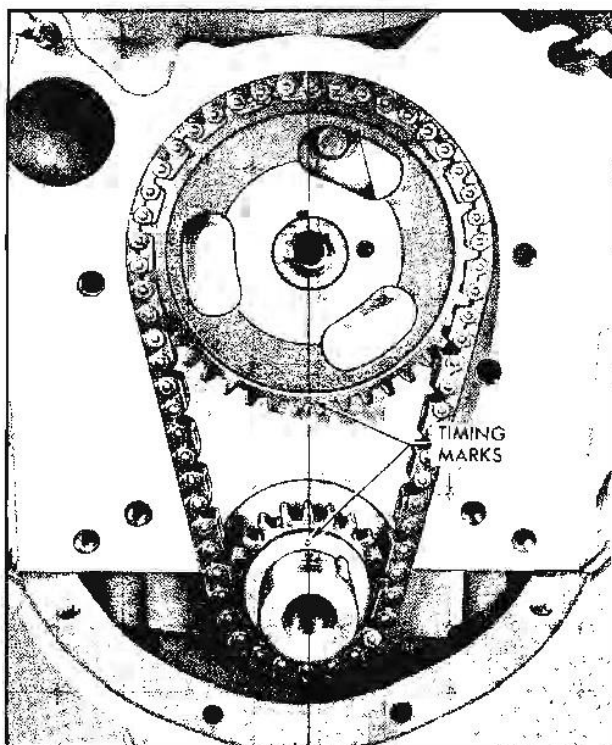

Fig. 6-150 Aligning Timing Marks
11. Remove sprockets and timing chain (Fig 6-150).
7. Install sprockets and timing chain, making sure timing marks on sprockets are aligned properly (Fig. 6-150).